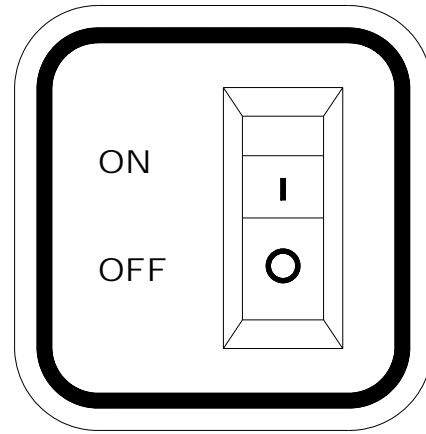

Fig. 3
5. Set the control switch on the side of the machine (Fig. 3) to the "I" or "ON" position.
1. Make certain the Control Switch (Fig. 3) is in the "0" or "OFF" position to avoid accidental motor starting.
6. Turn on the power switch (Fig. 3) to the unit. Depress and release the "Small Blend" switch (Fig. 7). When the blade stops rotating, use the small brush provided with the machine to thoroughly clean the agitator blade. Repeat as necessary until the blade and shaft are clean.